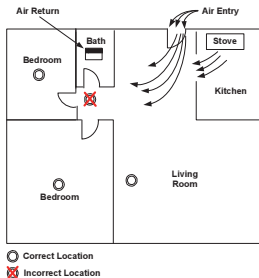

Figure 6: Recommended smoke and heat detector locations
- ◆ In the path of fresh air intake. The in-and-out flow of fresh air can drive smoke away from the smoke and heat detector; thus reducing its efficiency. Figure 6 indicates the correct and incorrect locations concerning this problem.